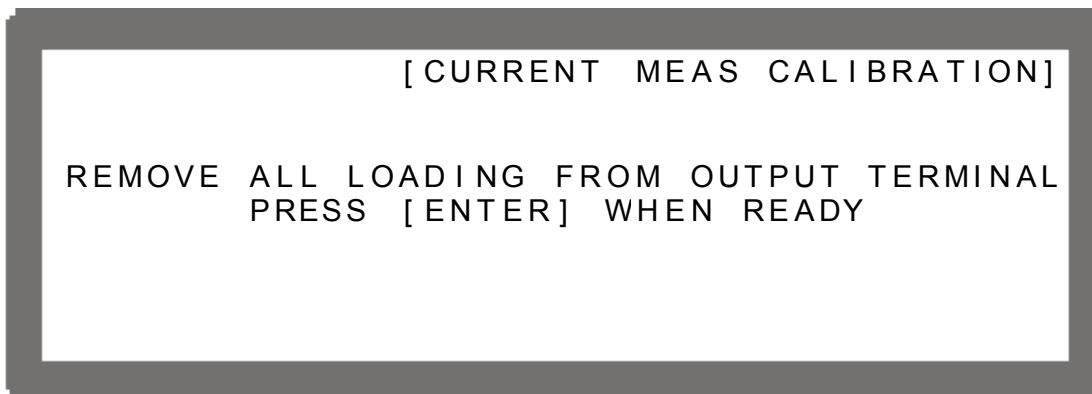

Figure 3-104
2. Press "ENTER" to confirm and entering into current calibration options as Figure 3-104 shows.